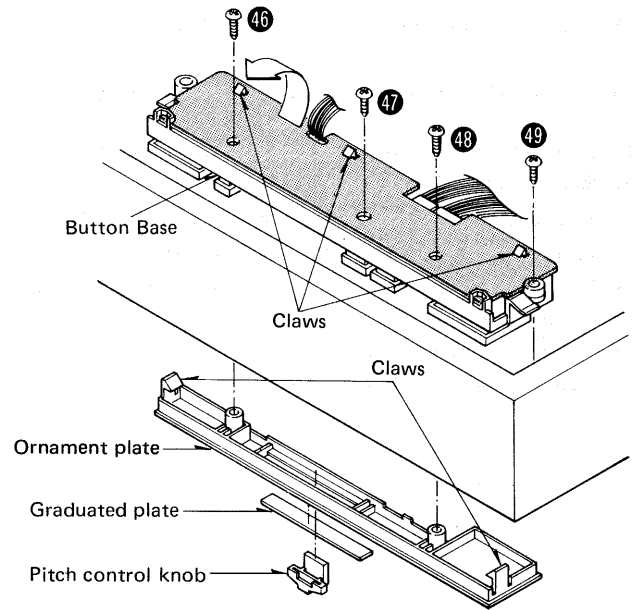

Fig. 14
4. Remove the graduated plate of pitch control and the pitch control knob. (Fig. 14).
5. Remove the 4 operation circuit board setscrews (Fig. 14: 46 ~ 49).